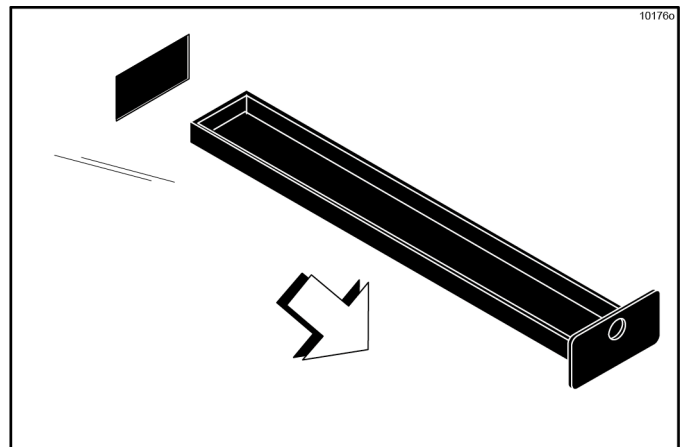

Figure 6-57
9. Remove all drip pans. Take them to the sink for cleaning. (See Figure 6-57.)